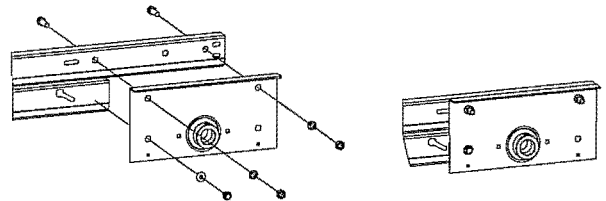

FIGURE 10
- Horizontal track, cut 7-1/2" from the back of the straight track pieces. (Figure 10)